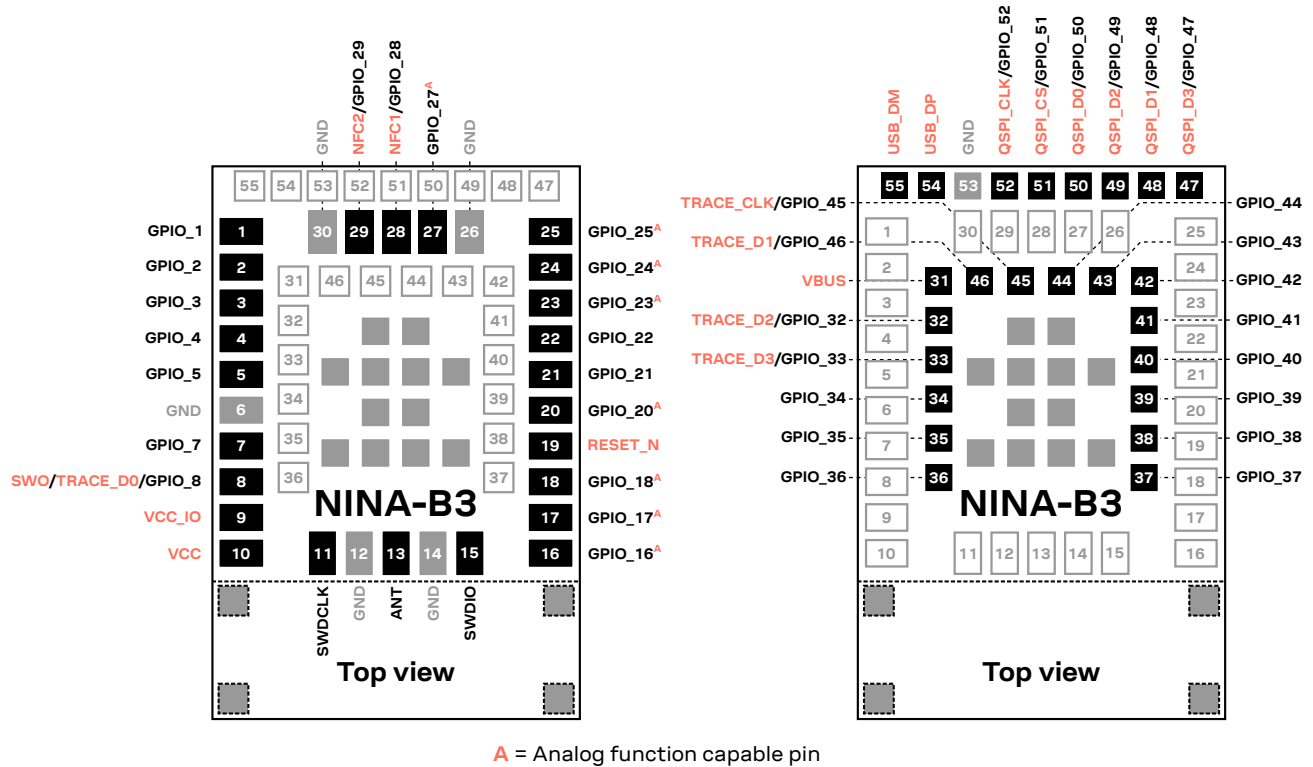

Figure 3: NINA-B30 series pin assignment (top view)
The pin-out described in Figure 3 is an example assignment that shows the module in an unconfigured state.
The grey pins in the center of the modules are GND pins. The outline of NINA-B301 ends at the dotted line as shown in Figure 3, where the antenna area of the NINA-B302 and NINA-B306 begins. The four grey pins with dotted outlines in the antenna area are GND pins and are only present on NINA-B306.
- Most of the digital or analog functions described in this data sheet may be freely assigned to any GPIO pin. Analog functions are limited to analog capable pins. Signals that are highlighted in red in Figure 3 are not freely assignable but locked to a specific pin.